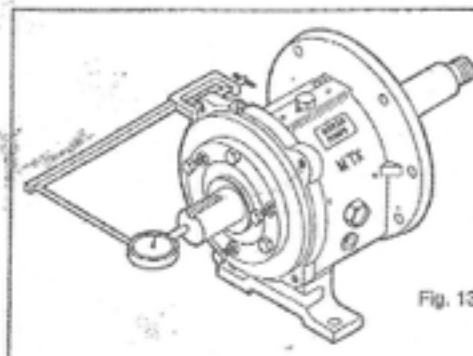

Fig. 139
2. Check shaft end play. Move shaft forward then backward by hand, noting indicator movement. If total indicator reading is greater than Table 10 values, disassemble and determine cause (Fig. 139).